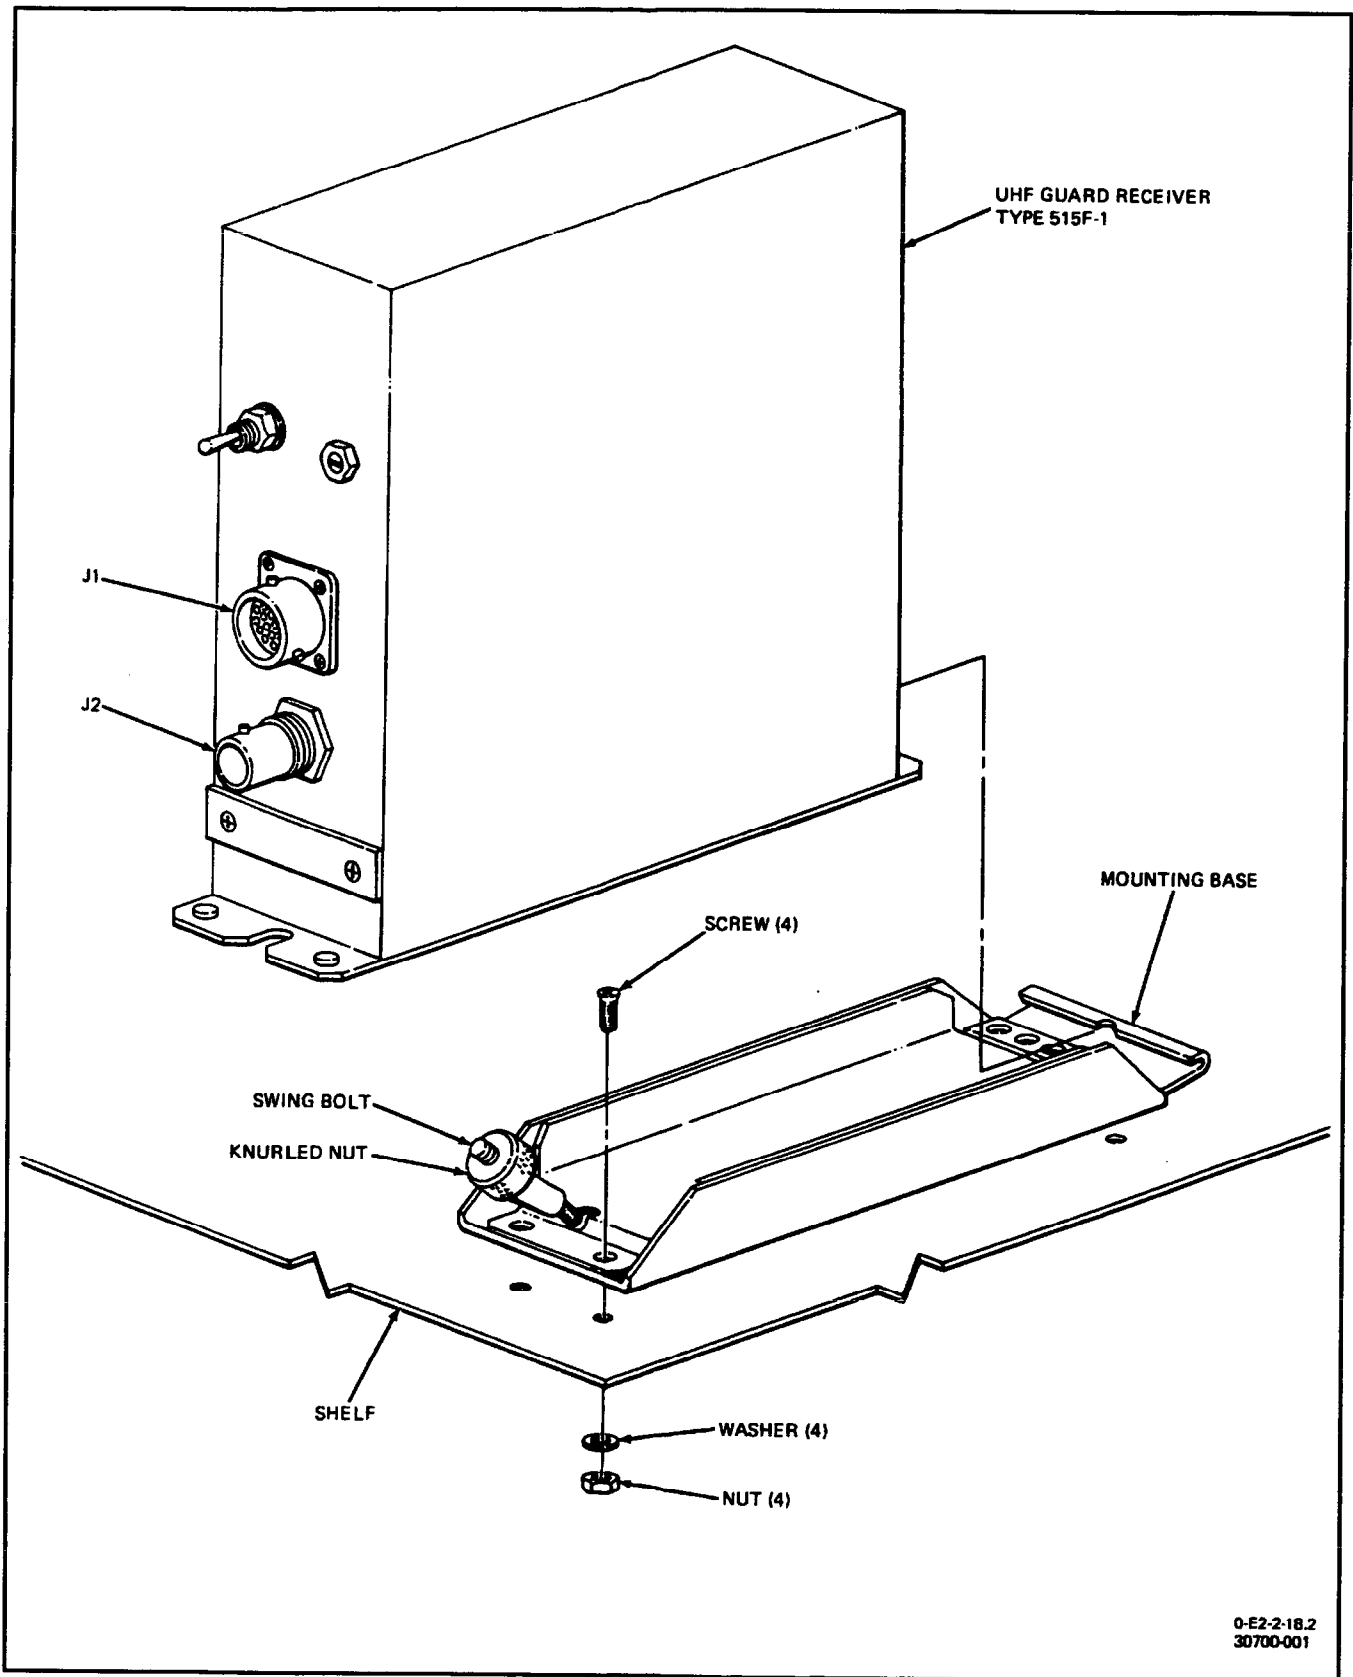

Figure 1. Removal and Installation of UHF Guard Receiver
**3. REMOVAL.** (Figure 1.)
#### 4. **INSTALLATION.** (Figure 1.)